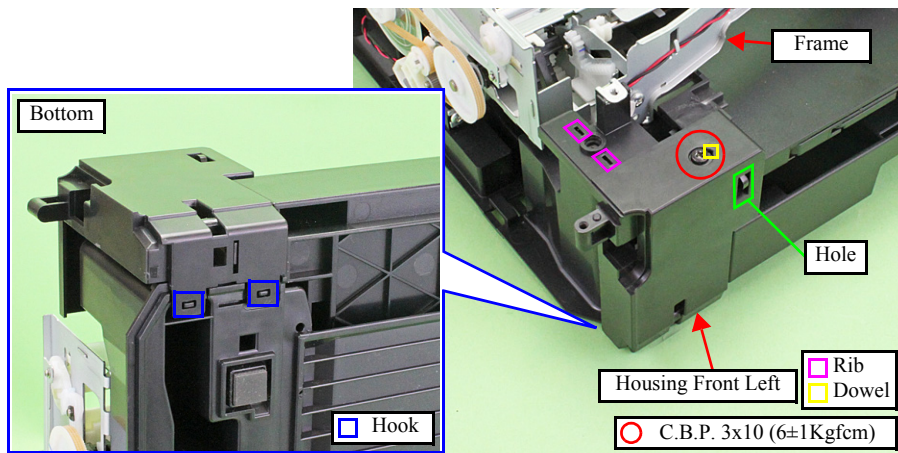

Figure 9-24. Removing the Housing Front Left
1. Remove the screw (x1) that secures the Housing Front Left. (See Fig. 9-24.)
2. Release the hooks (x2) on the bottom of the printer. (See Fig. 9-24.)